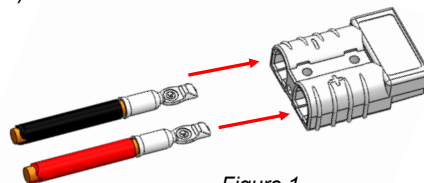

Figure 1
2. Insert cables into connector (figure 1).